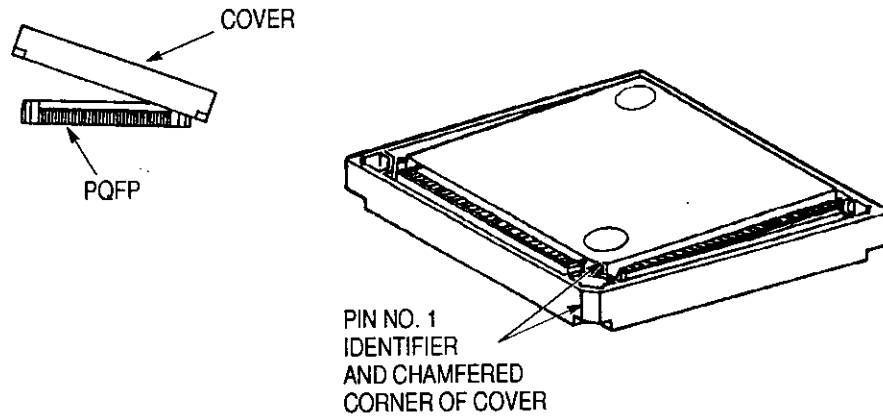

Figure 4
1. Place PQFP on a flat surface, with "gullwings" facing downward. Align chamfered corner of the cover with the corner of PQFP having the pin No. 1 identification. See Figure 4.